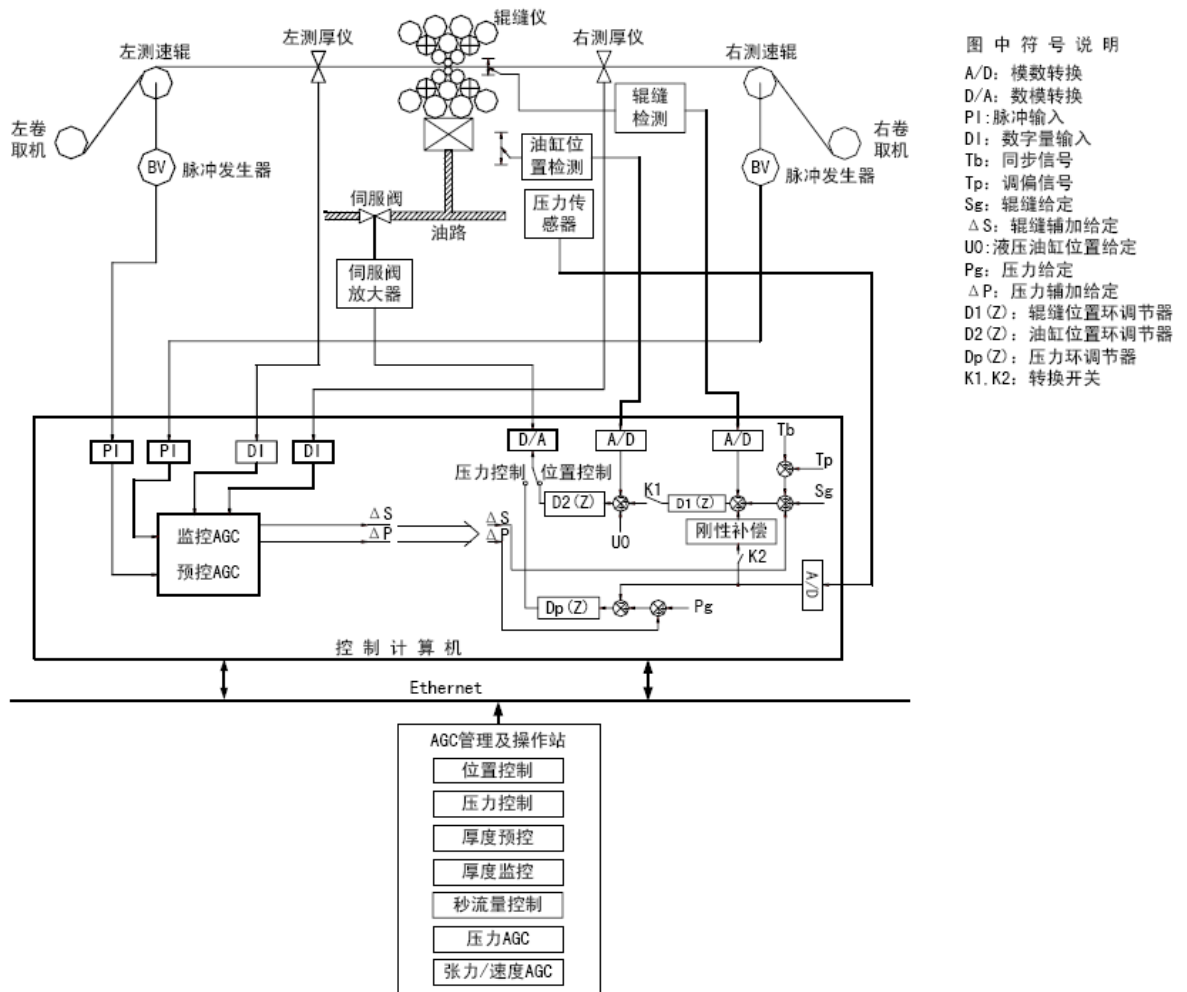

Figure 6. AGC Computer Control System Block Diagram
(13)Rolling Report: “F3” ” Rolling Report” can generate reports for each tape, each rolling pass, each rolling group, and each day. Customers can choose to print the reports about rolling speed, rolling force, exit thickness or other parameters. See figure 6.